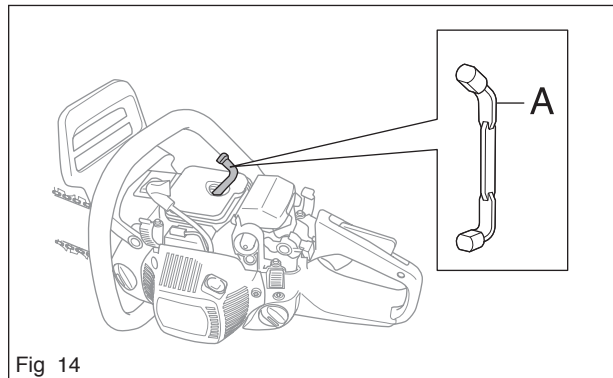

Fig 14
Disconnect the HT lead. Remove the spark plug and fit piston stop 502 54 15-01 (A) in its place (see figure 14).